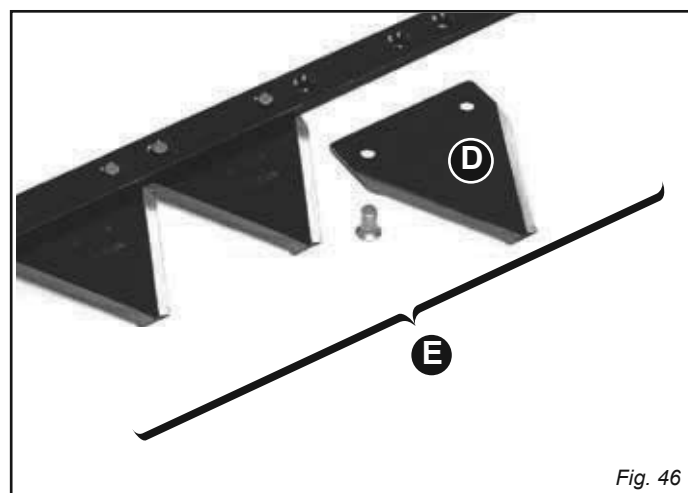

Fig. 46
REPLACEMENT OF SECTION-HOLDING BAR (E, Fig. 46)
REPLACEMENT OF SECTIONS (D, Fig. 46)
- Rivet a new section with the rivets provided (D, Fig. 46).